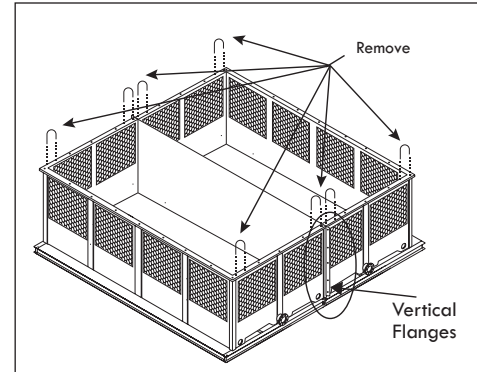

Figure A-27: Removing U-bolts from basin for a Quadruple Fan Tower
- H.** After the basin has been set in place, remove the U-bolts on top of each corner before installing the body section (see Figure A-27).